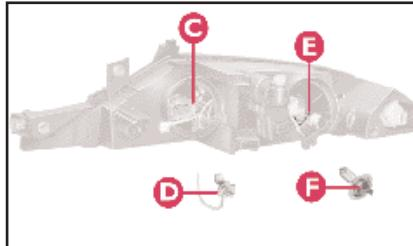

fig. 11
- 2) Release the clips C-E (fig. 11) and remove the burnt-out bulb D (mainbeam headlight of type H3 with printed wire already attached) or F (dippedbeam headlight, type H7).